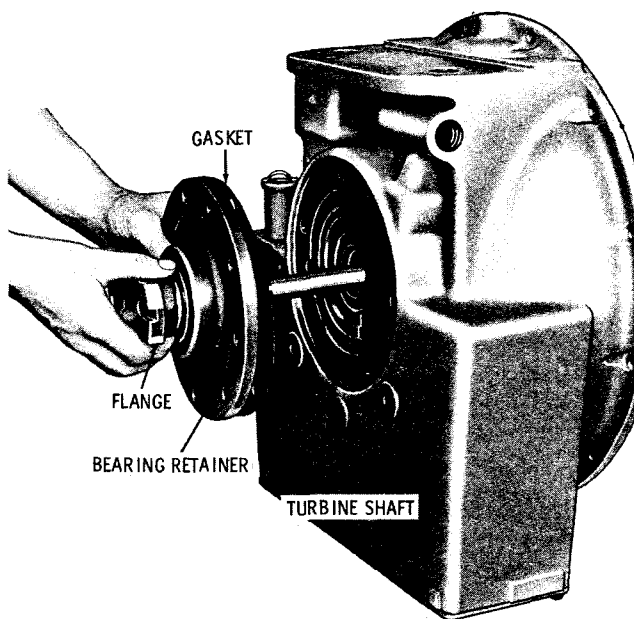

Fig. 7-9. Installing automotive shaft assembly (TC 200)
(1) Set the converter housing in a vertical position, top upward.
(2) Install gasket 5 (B, foldout 4) and the output shaft assembly, as rebuilt in paragraph 6-6 (fig. 7-9).